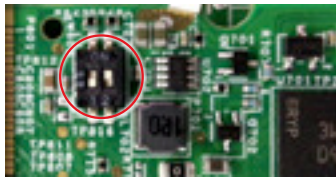

Figure 2: SW602 setting for Serial Download Mode
4. Switch SW602 to OFF, ON (from 1-2 bit) to enter serial download mode as shown in Figure 2.